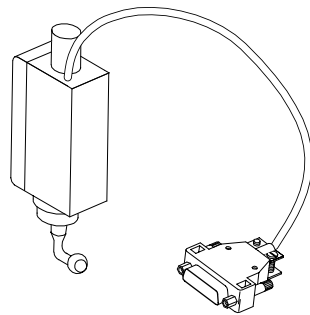

Fig. 7.3
**Speed control unit SWG2 (Fig.7.3)**